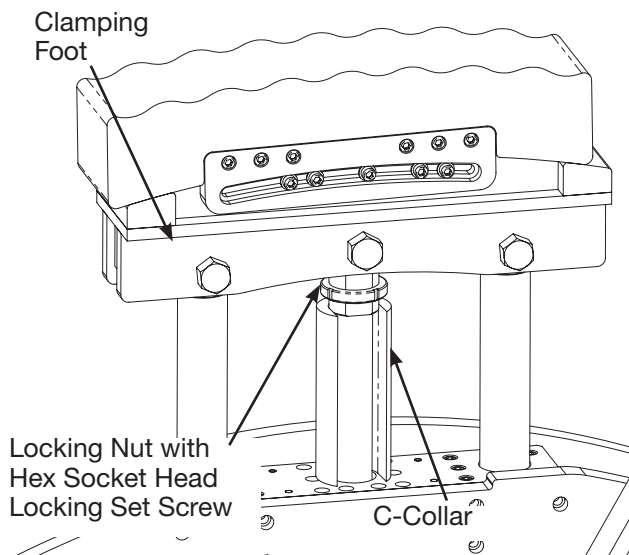

Figure 16: Clamping foot on base
12. Wind the 3 x Lock Nuts down to the mechanical locks (or 'C-Collars') & tighten the hex socket head grub screw to lock the hydraulic rams in place. See figure 16.